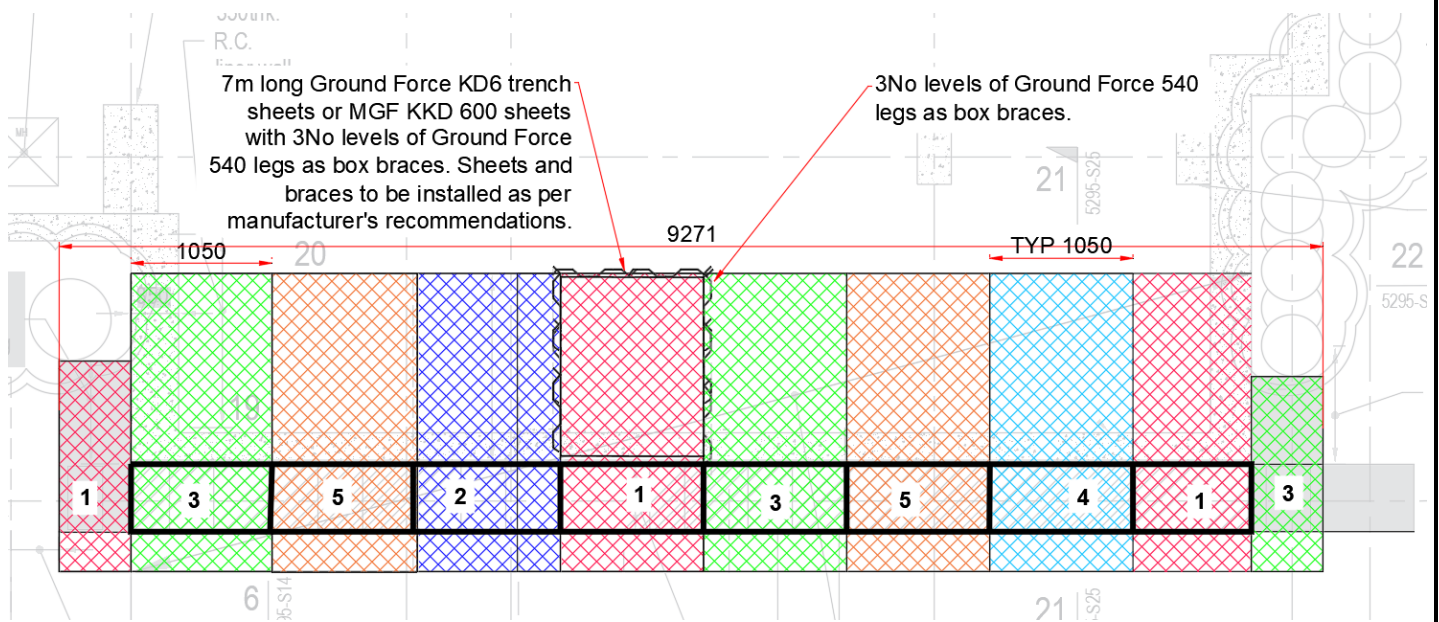

Figure 2 Underpinning sequence plan
1. The underpins must be installed sequentially according to the bays shown on Fig 2 below or DFS drawing 221011-13 to 15.